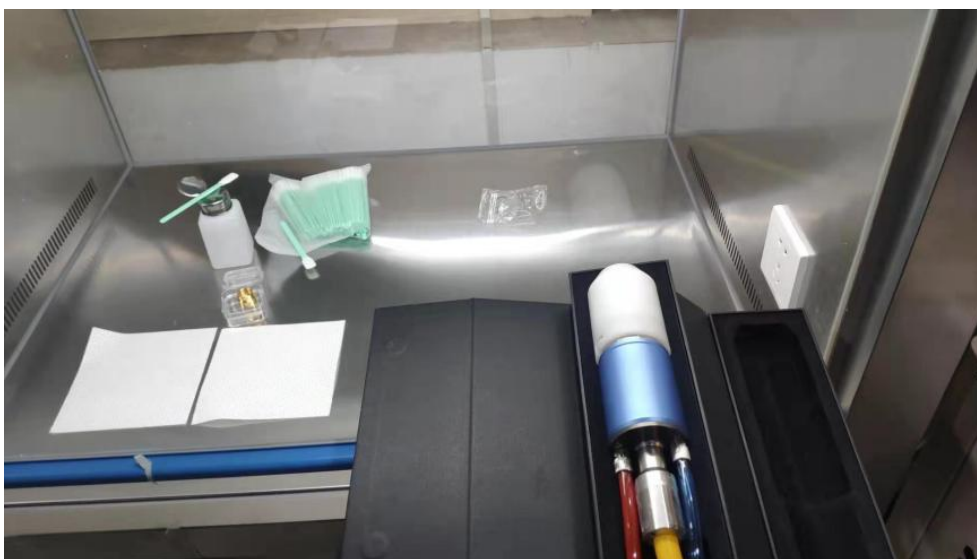

Figure 6 Output cable placed in the box
a) Clean workbench should be turned on for at least 5 minutes, and the output optical cable should be taken out of the black packaging box, as Figure 6. The outer surface of the shell shall be blown with compressed air bottle for preliminary cleaning.